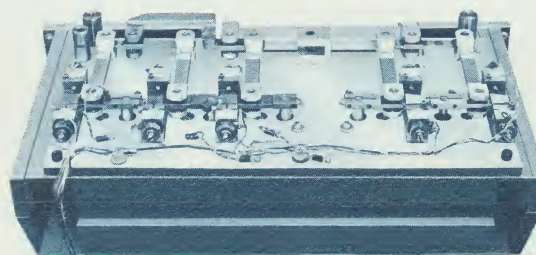

Figure 13. Head Positioning Mechanism
12. Five equal amplitude input deflections acquire binary weightings of  $2^0 - 2^4$  and from the linkage relationships provide 32 precisely repeatable positions of the head post with very fast head shifting. Of these 32 positions 28 are actually required for positioning the head; the remaining four are electronically ignored by the equipment. The actual head positioning mechanism is shown in Figure 13.